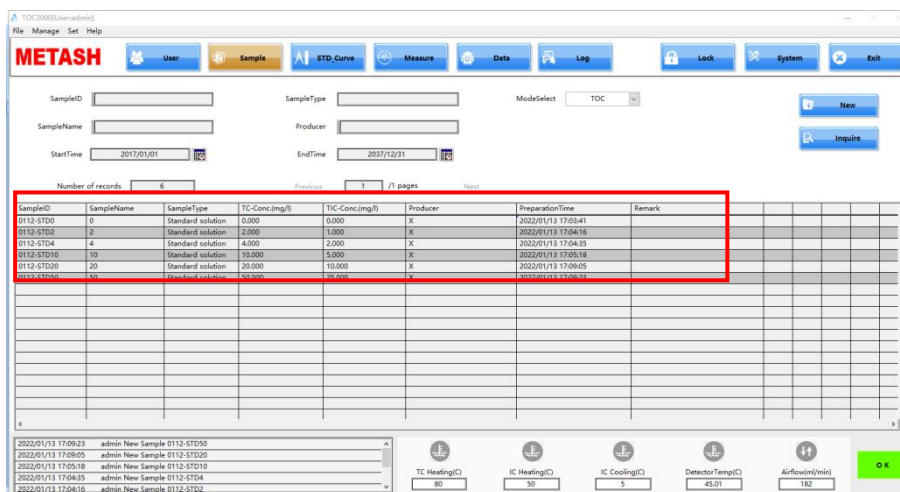

Fig 4.9
3. Register all standard solutions or sample solutions that to be tested, to avoid repeated returning to the 'Sample Management' interface for registration. The information of successfully registered sample will be displayed in the form (Fig 4.9).